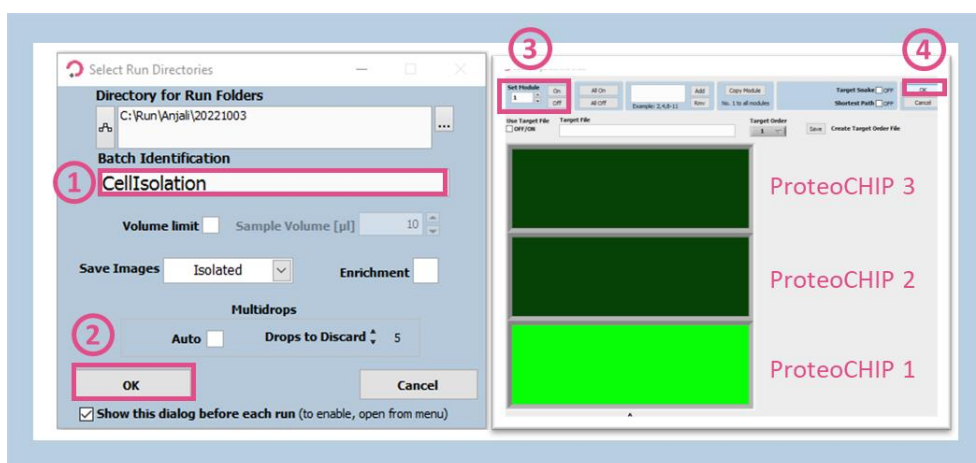

Figure 19: Start the run for single cell isolation
Select the proteoCHIP positions that will be used (Figure 19) and click "OK" (Figure 19 ②).